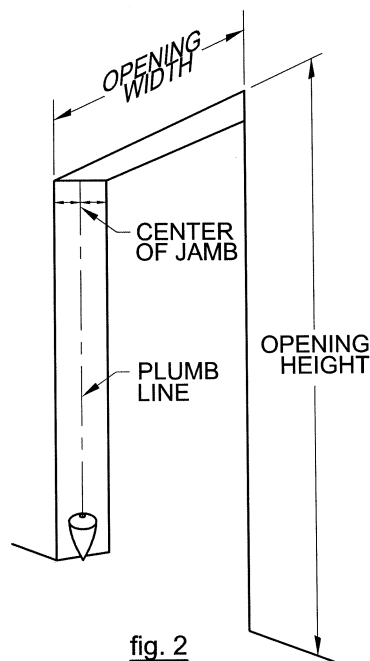

fig. 2
- Drop a plumb line from the centre point to the floor and mark (fig. 2).